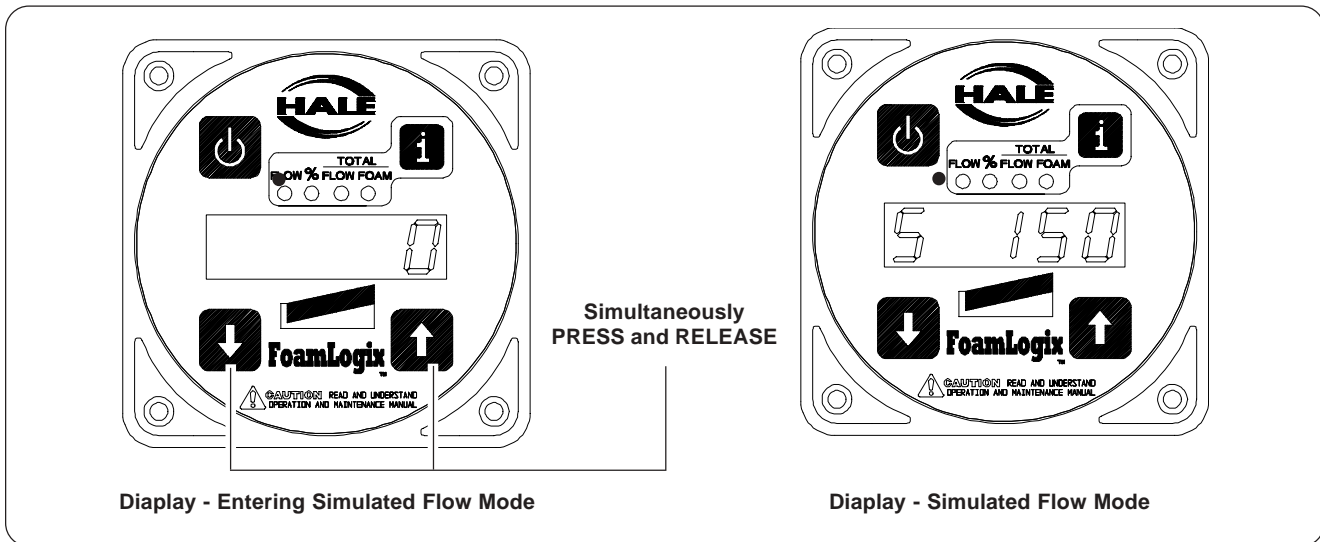

Figure 41: Display - Simulated Flow Operation
4. The Hale FoamLogix enters the STANDBY mode. (See Figure 41: “Display - Simulated Flow Operation.”)
6. The display shows **S 150** (or other preset default value) and the **FLOW** LED lights. (See Figure 41: "Display - Simulated Flow Operation" on page 64.)